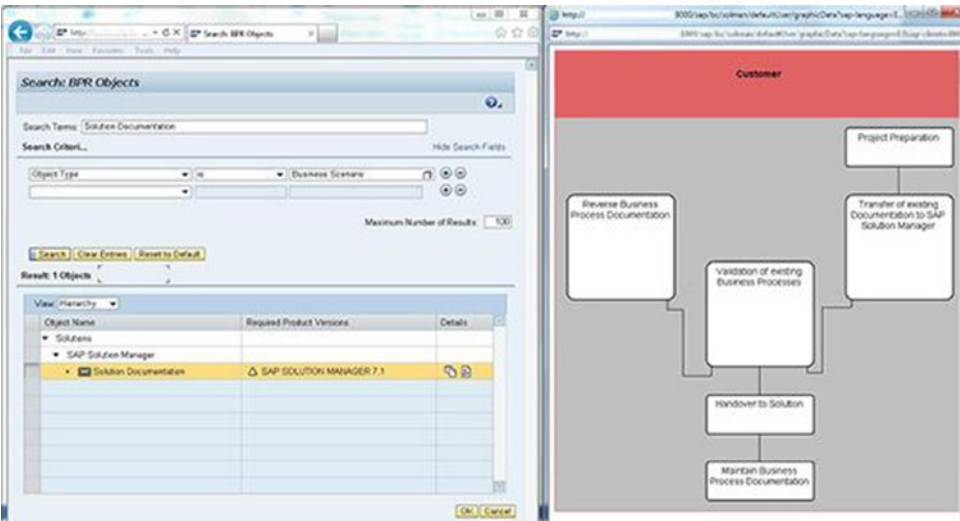

Figure 10-8. Searching the BPR
- 4. Use the t-code /solar01 and select the structure table as shown in Figure 10-8. From the Source drop-down menu, select the Extended Search in BPR option.